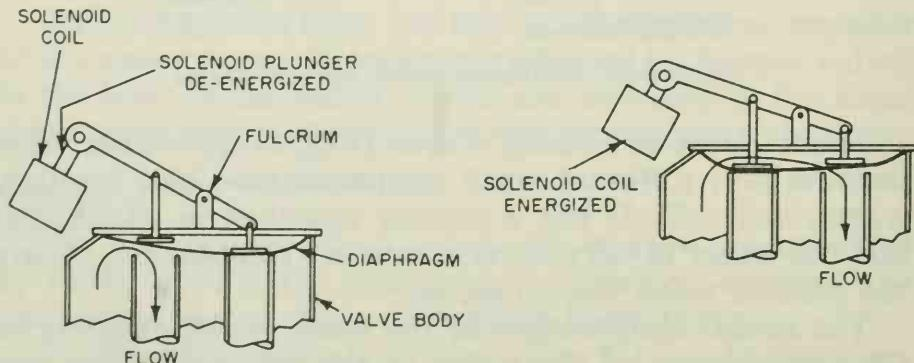

Fig. 3-20. Two-way suds-return valve permits reuse of wash water.
*Two-Way Valves* (Fig. 3-20)—Some washing machines employ a "suds-return" system whereby the sudsy water from the first wash is stored in one of a pair of dual laundry tubs and is used again in a subsequent wash. If the user selects the suds-return cycle, a solenoid is energized on the two-way valve to divert the drain water into the laundry tub instead of into the regular drain tub.